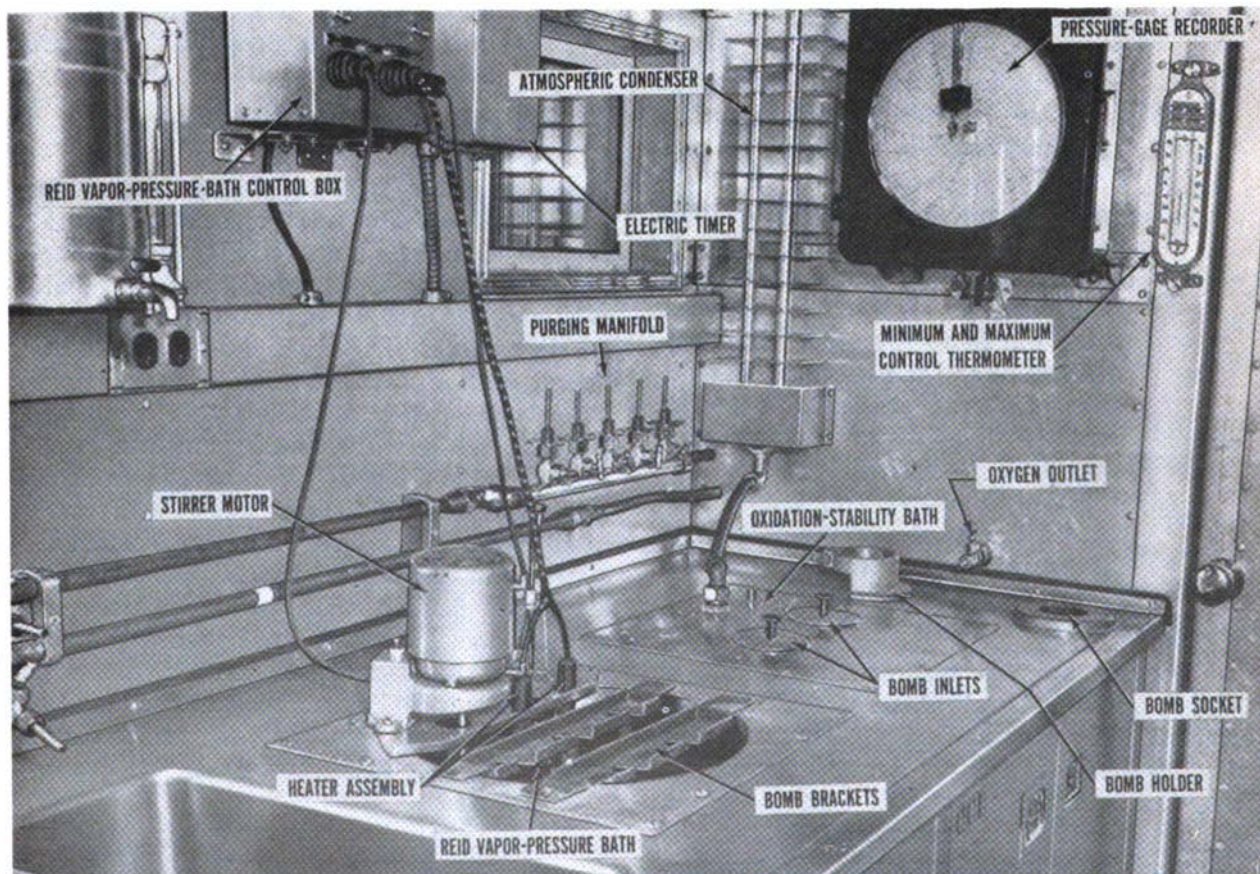
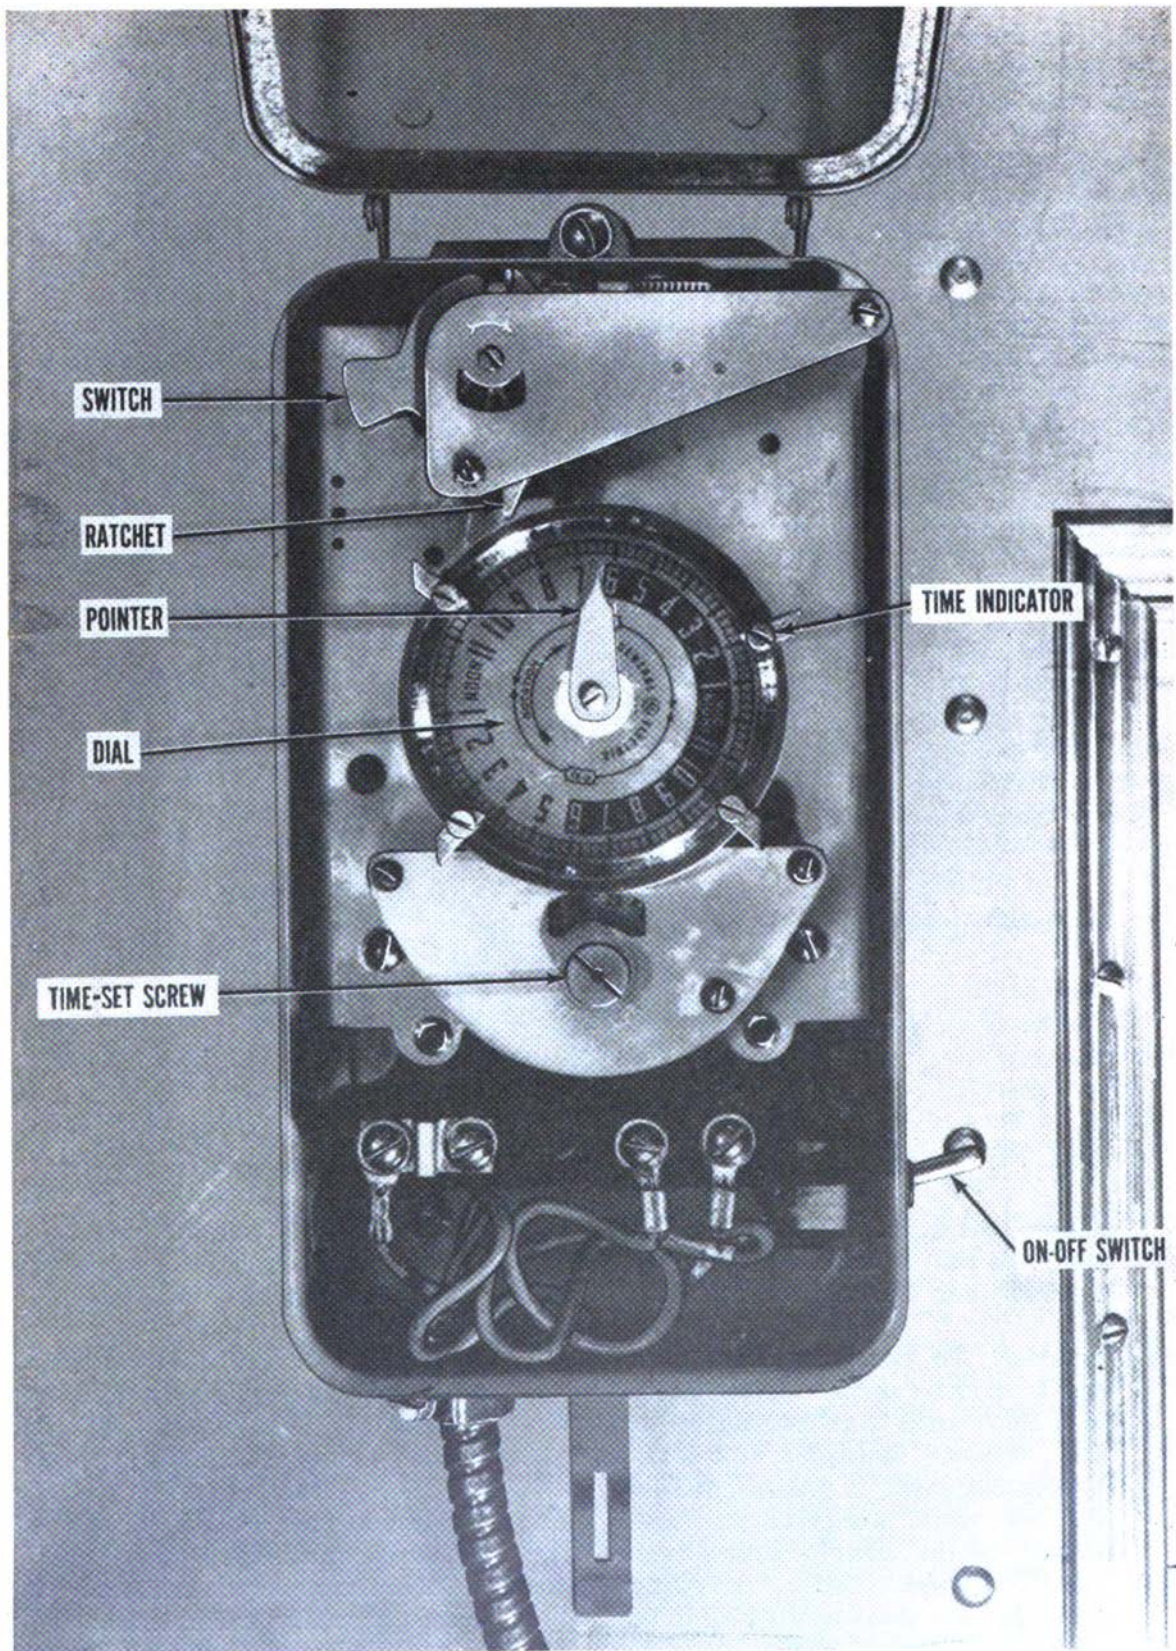

Figure 51. Reid vapor-pressure bath apparatus and oxidation-stability bath.
Figure 53. Electric timer (cover raised) for oxidation-stability test apparatus.
- (1) *Cleaning.* Remove dome cover of still after daily use, and wipe away accumulated soft sludge. If sludge has hardened into a crust, leave a dilute (about 10 percent) solution of acetic acid overnight in evaporator. After this treatment make sure that no distilled water produced is utilized before operating still for about 2 hours to remove all traces of acid.
- (2) *Replacing heater element.*
a. Description. The Reid vapor-pressure apparatus (fig. 51), used to determine vapor pressure of volatile petroleum products, is mounted in cabinets CC-1 and CC-2. The apparatus consists of items required for the immersion of 3 Reid vapor-pressure bombs in a constant-temperature bath (100° F. \pm 0.2° F.) and includes heating units and sensitive controls for automatic maintenance of required temperature. Components include a flush-mounted, stainless-steel, constant-temperature bath, at the top of which are mounted a 1/30-horsepower motor, for stirring bath water; thermometer; 500-watt "low-lag" immersion heater, controlled by a mercury-to-mercury thermoregulator and sealed contact relay; and brackets for suspending bombs. An overflow standpipe and drain is screwed into the bath bottom. In the housing below the bath working chamber are mounted a relay, pilot light, and ON-OFF toggle switch. A control box containing the motor and heater switches is mounted on the laboratory wall above the apparatus. Circuit breaker switch 5 controls current to the control box.
- (1) Make sure that drain valve in cabinet under bath is closed. Fill bath to level of overflow pipe with water to which a solution of 10 parts per million of copper-sulfate has been added to minimize algae growth.
- (2) Push toggle switch on bath to ON position thereby energizing heater and stirrer-motor circuits.
(1) To measure pressure higher than atmospheric, connect line to high-pressure (HP) connection on fluid reservoir.
(2) To measure vacuum, connect line to low-pressure (LP) connection at top of indicating column.
(3) To measure a differential pressure, connect line with higher pressure to high-pressure (HP) connection, and line with lower pressure to low-pressure (LP) connection.
a. Description. The oxidation (gum)-stability-of-gasoline test apparatus (fig. 51), used to determine gum stability of gasoline in storage, consists of an electrically heated oxidation-stability bath with a 2-bomb capacity and 3-heat switch. It is provided with a wall-mounted atmospheric condenser; two stainless-steel bombs, each provided with composition gaskets, needle valve, and Pyrex glass liner; a wall-mounted 2-pen-type pressure-recording gage with electric clock mechanism, and a range of from 0 to 200 pounds in 2-pound divisions, recording charts, and ink set; two 5-foot lengths of flexible metal tubing with a coupler at each end for connection between bomb and recorder; a wall-mounted electric timer (fig. 53); and a table socket to accommodate bomb when tightening bomb cap. Circuit breaker 8 controls current to the apparatus.